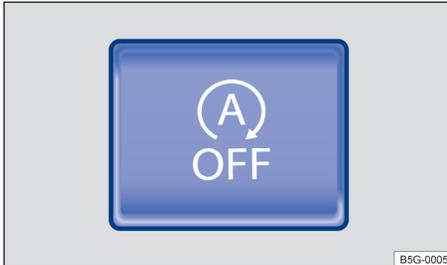

Fig. 93 On the upper section of the centre console: Start-Stop system button.
- Press  on the centre console → Fig. 93 OR on the radio display to manually disable the system.
- Press  on the centre console → Fig. 93 OR on the radio display again to manually reenable the system.